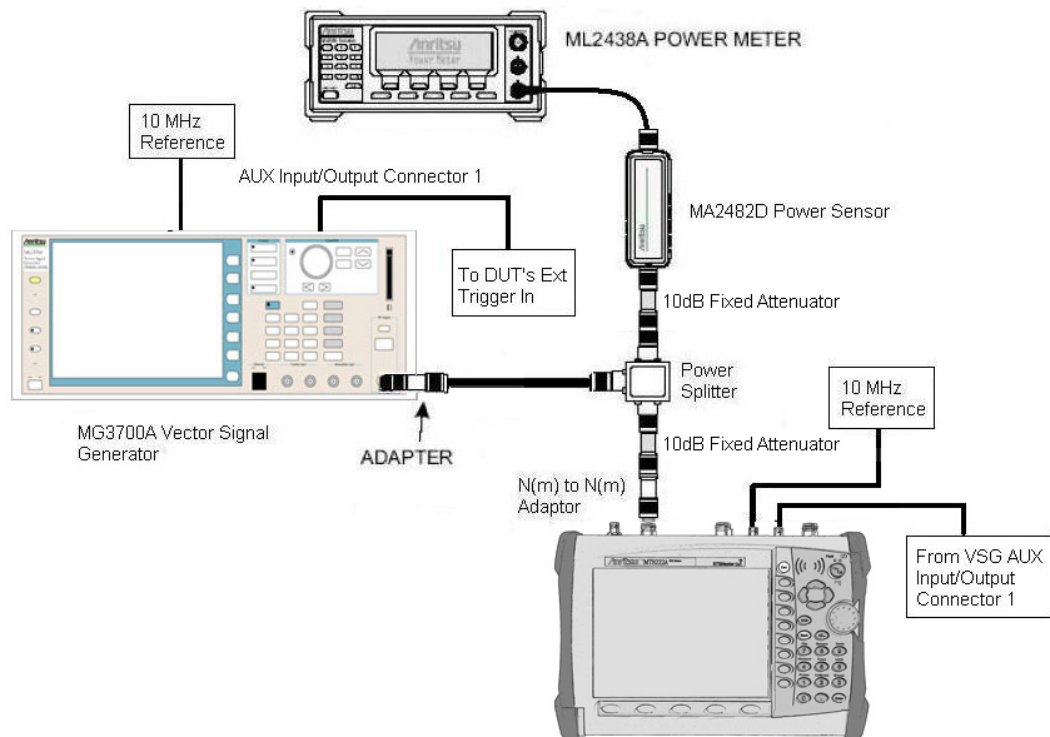

Figure 5-7. TD-SCDMA Signal Analyzer Option Verification
1. Connect the equipment as shown in Figure 5-7.